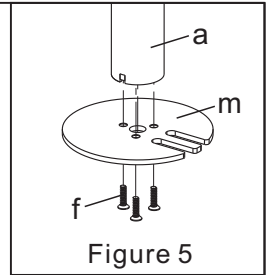

Figure 5
2. Install the Grommet Base Plate(m) to the Pole(a) using 3pcs M5x14 Bolts(f), and tighten using the Allen Key(o), see Figure 5.